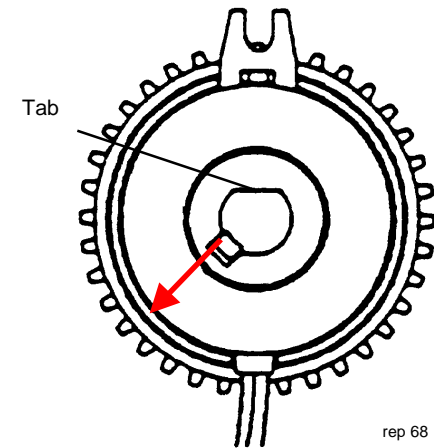

Figure 1. Removing the Clutch
2. (Figure 1): Push the tab in the direction shown and pull the clutch off of the shaft.